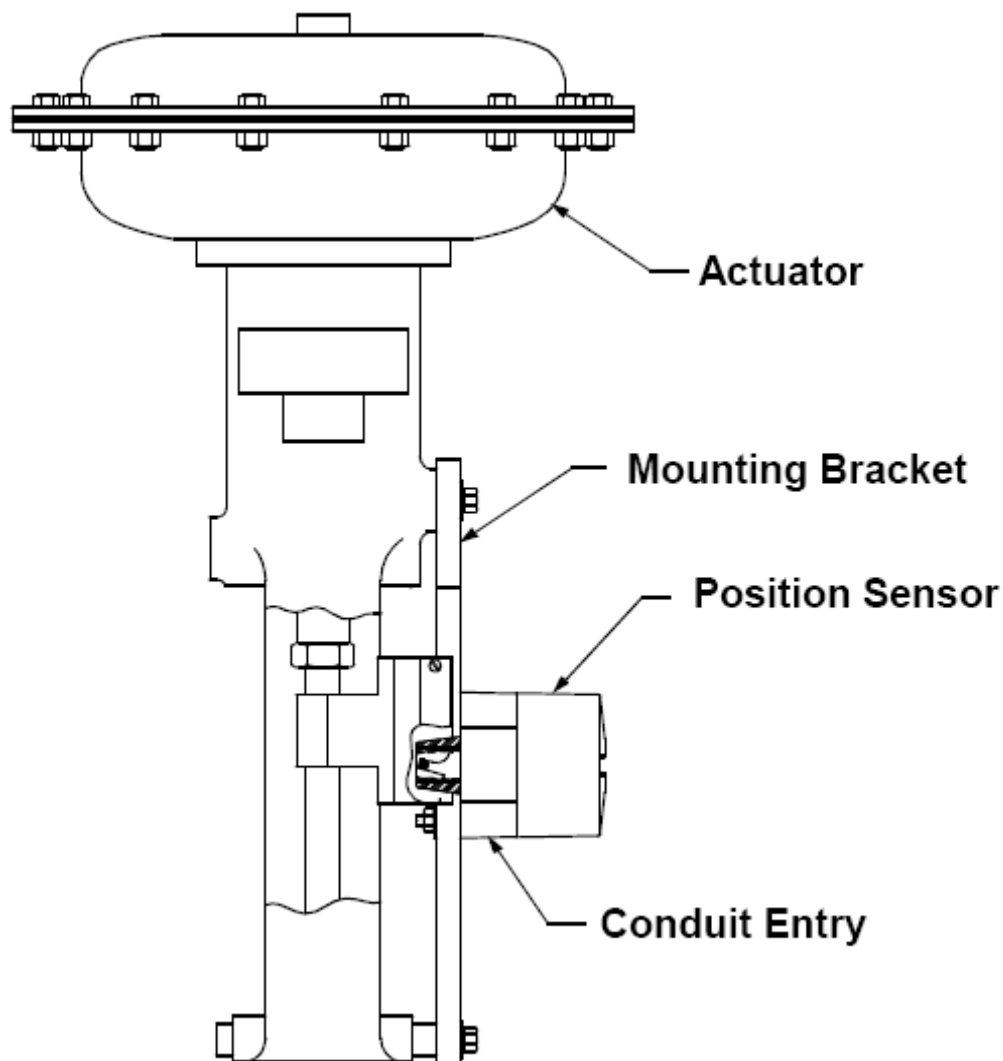

Figure 3-7
Step 2. Mount the position sensor housing so that the conduit entry faces away from the diaphragm or cylinder. (See Figure 3-7)